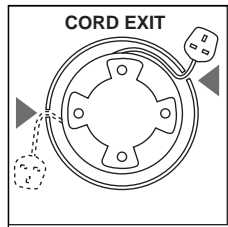

Fig. 4
- Release cord from storage base and adjust length by winding around the base to give the correct cord length to reach the plug socket to be used (fig. 4).